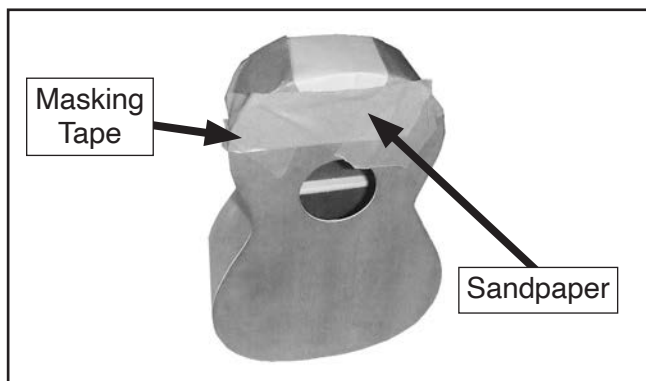

Figure 4. Body masked for neck sanding.
1. Attach sandpaper with masking or painter's tape at location shown in **Figure 4** below.